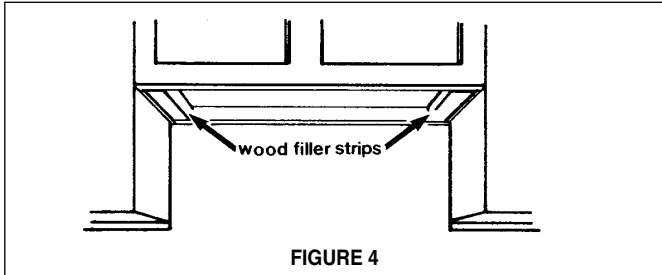

FIGURE 4
3. If the cabinet bottom is recessed, wood blocks need to be installed to insure proper alignment with the cabinet bottom. Wood blocks should be flush or recessed 1/16" to 1/8" within the cabinet bottom as indicated in **FIGURE 4**.